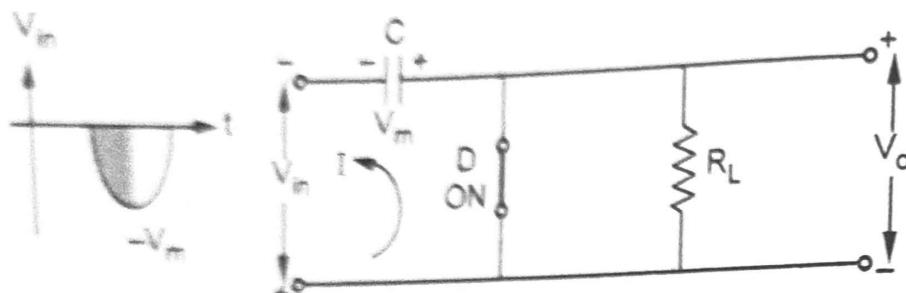

Fig. Q.50.2
- During the first quarter of negative half cycle of the input voltage V_{in} , diode D gets forward biased and almost instantaneously capacitor gets charged equal to the maximum value V_m of the input signal V_{in} with the polarities as shown in the Fig. Q.50.2.